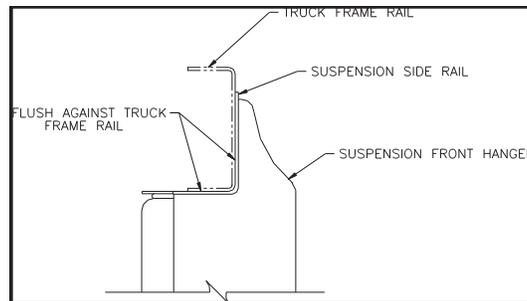

Figure 5-3
7. **IMPORTANT** – The entire Auxiliary Suspension mounting surfaces must set flush with both the side and bottom of the truck frame rails or spacers. Failure to do so will void all of the suspension warranty. (See Figure 5-3)